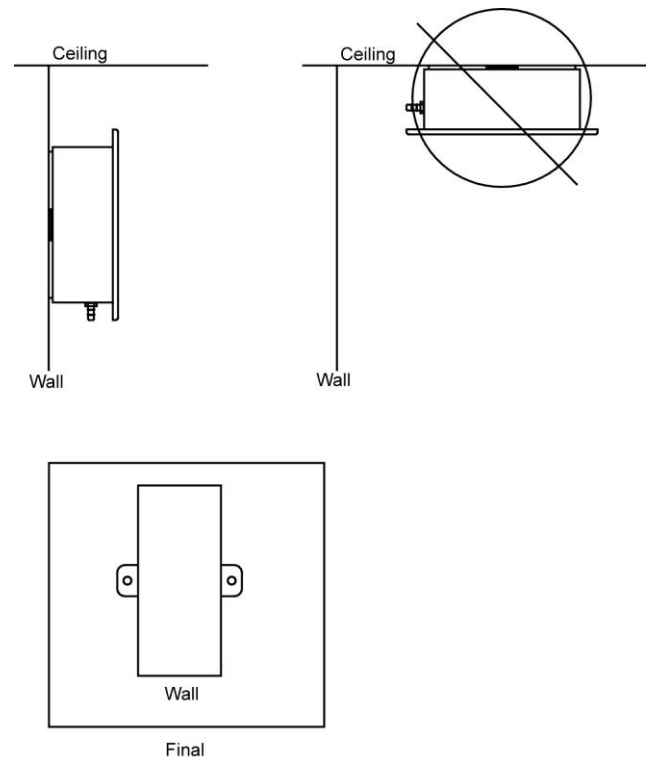

Figure 2: Pressure Transducer Mounting
- 3) Mount the pressure transducer within 10 feet of the flow station. The transducer must be mounted on a wall in the correct position per Figure 2 (screws not provided).